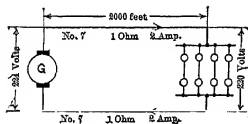
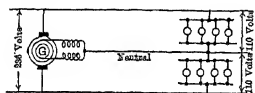

FIG. 101. Two-wire system. The 2 line wires each carry 4 times the current of 1 lamp.
FIG. 102. Three-wire system. Each outside wire carries 4 times the current of 1 lamp. The neutral carries no current in this case.
Suppose that we now arrange these same lamps as in Fig. 101. By placing two in series in each case, each lamp
It would require  $8 \times 2$ , or 16 volts to send the 2 amperes of Fig. 101 through this line.
has been added to the arrangement in Fig. 101, which produces the three-wire system, as shown in Fig. 102.
This neutral wire is usually the same size as each of the other two. So if we allow the same watts lost in the line, the total amount of copper is a little greater than one-quarter that of the two-wire system of Fig. 102. In fact, there is just three-eighths as much copper in the three-wire system.
**50. Voltage Distribution in Three-Wire System.** In using the three-wire system, every effort is made to keep it balanced. In this case, the voltage, current and power distribution differ in no respect from that of a two-wire system, with lamps, or other electrical appliances, paired off, two in series, as in Fig. 101.